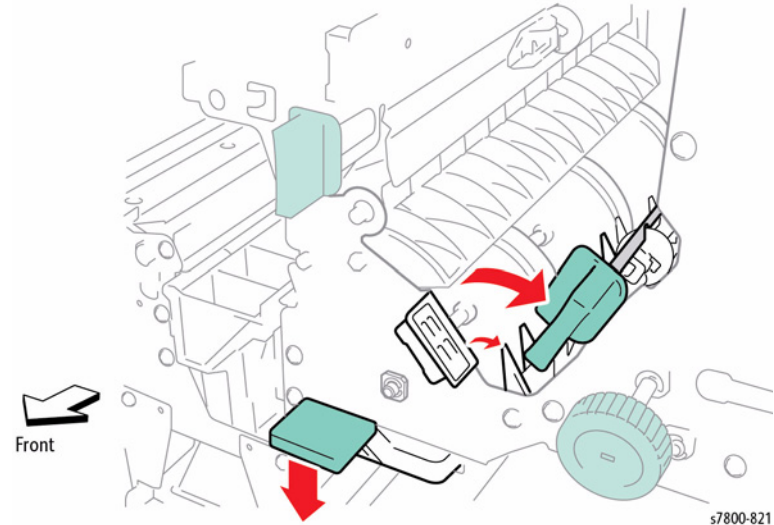

Figure 3 Opening the Lower Exit Chute and the Bottom Buffer Chute
9. Lift the Buffer Gate if necessary as shown in Figure 3.